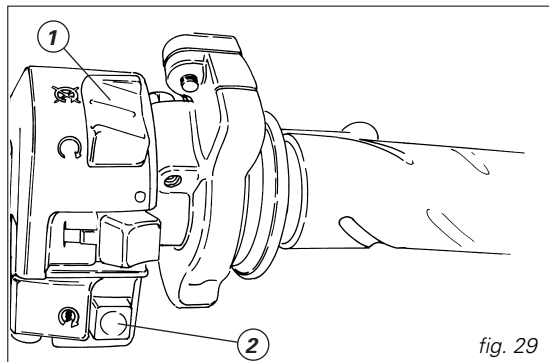

fig. 29
3) Check that the stop switch (1, fig. 29) is positioned to **○ (RUN)**, then press the starter button (2).